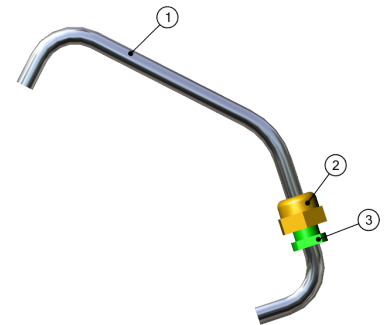

Fig. 3: Soap Spout with nut and bushing
1. To install - remove the bushing (Fig. 3 - Item 3 shown in green).